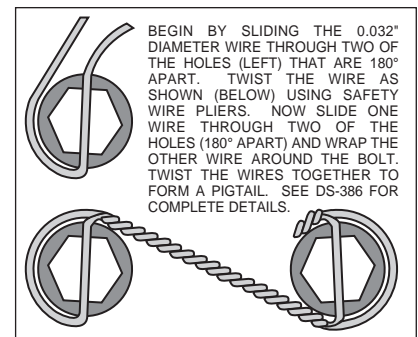

Figure 3. Safety Wire Diagram
- Slide bolt (3) through washer (2) from the backside of the modified OEM caliper mounting bracket. Apply red *Loctite*® 271 to the caliper mounting bracket bolt threads (3) before installation of the caliper mounting bracket (1). Install the caliper mounting bracket (1) with the threaded inserts facing the outside of the vehicle. Finger tighten. Repeat for the lower mounting holes. Torque bolts to 40 ft-lb.
- With the larger I.D. side of the rotor (4) facing away from the hat (5), bolt rotor (4) to hat (5) through the back side of the rotor using washers (6) and bolts (7). Using an alternating sequence, apply red *Loctite*® 271 to the threads and torque bolts to 140 in-lb. For an added measure of security, the bolts may be safety wired using standard 0.032 inch diameter stainless steel safety wire as shown in Figure 3. Please refer to Wilwood's data sheet DS-386 for complete safety wire installation instructions. Slide the rotor/hat assembly onto the hub. Install a couple of lug nuts (finger tighten) to keep the rotor/hat assembly in place while continuing with the installation.